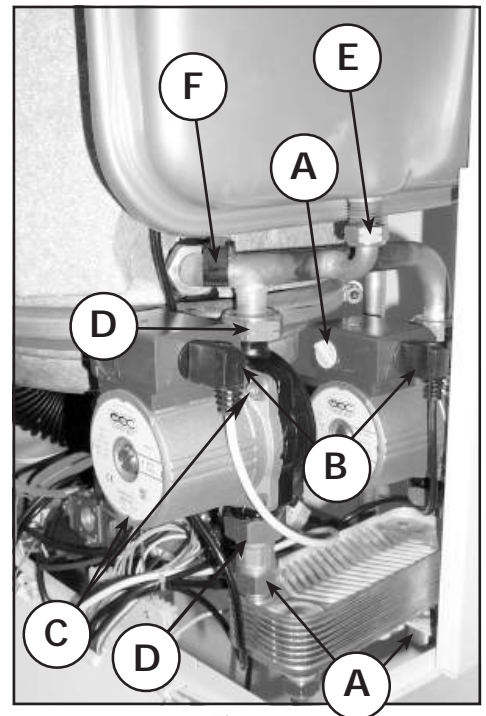

Fig. 27
- To change electrodes, unscrew the two screws to the supporting plate and remove it. Undo the brass nuts, to electrodes "B" (fig. 27). Reassemble reverse order.
## Replacement of pump head (fig. 27)
## Replacement of pump body (fig. 27)
## Expansion Vessel (fig. 27)
## D.H.W. temperature sensor (fig. 27)